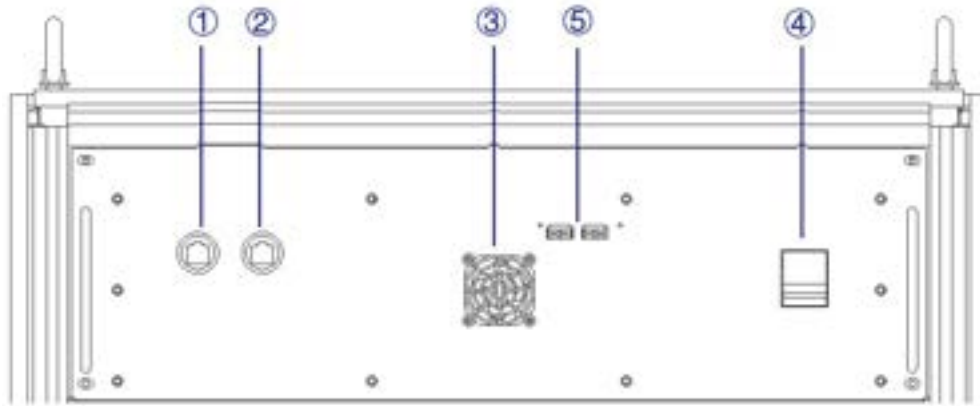

Figure 3-2 Control Modules
After the AC input side is powered on, open the cabinet door, close the power switch of the control module (Figure 3-2④), power to the product control module.